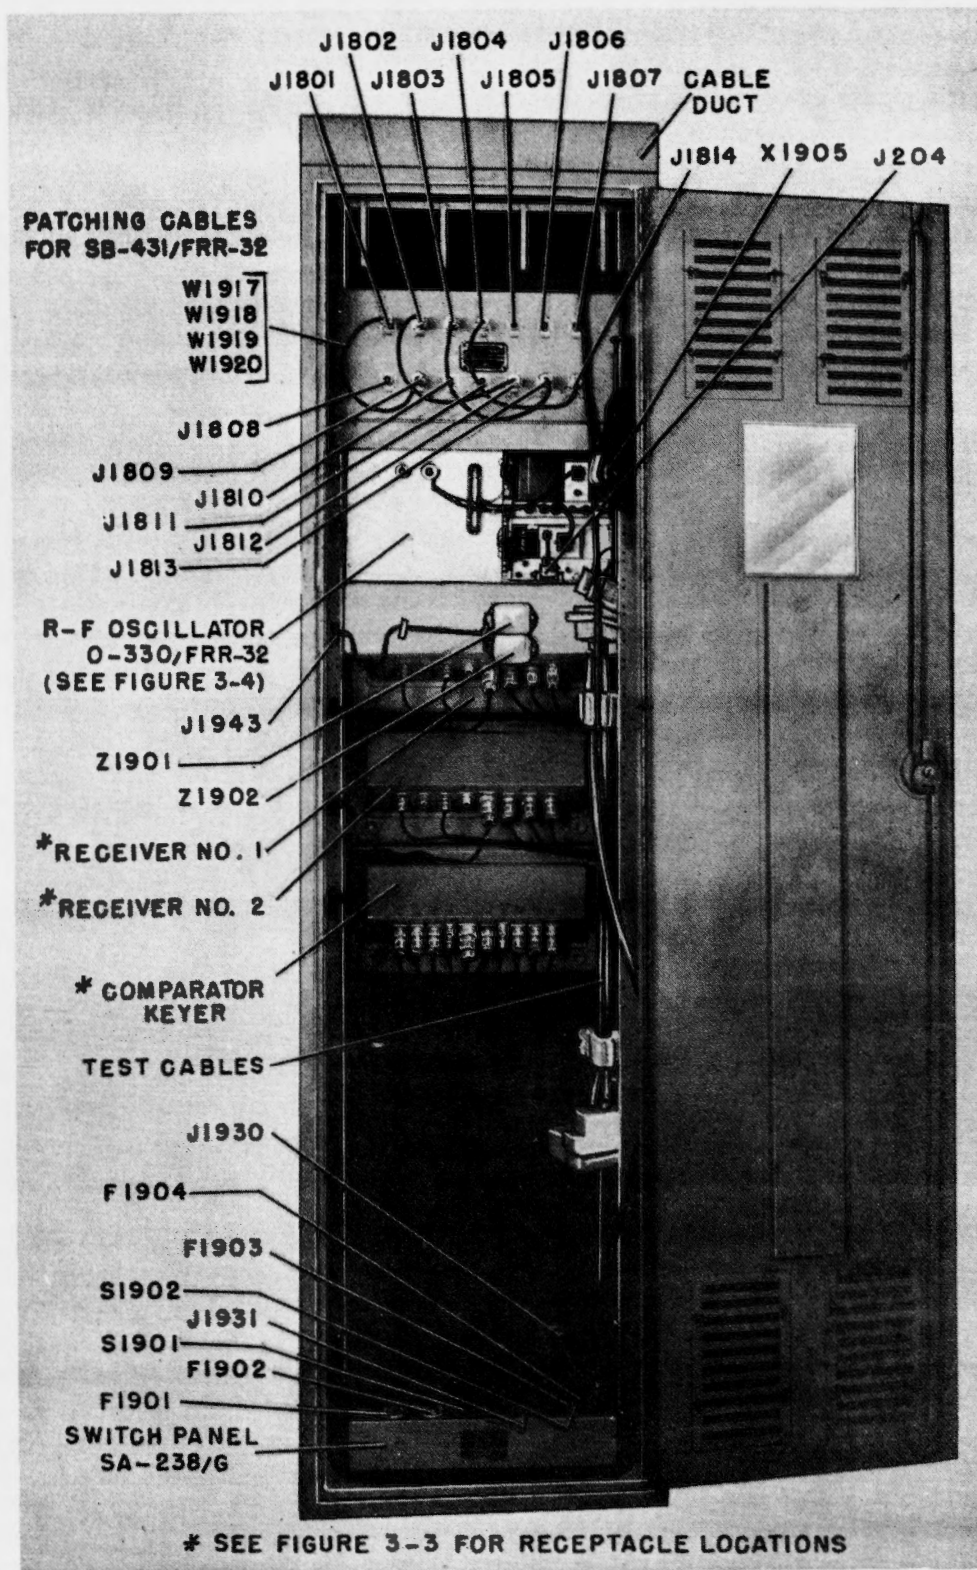
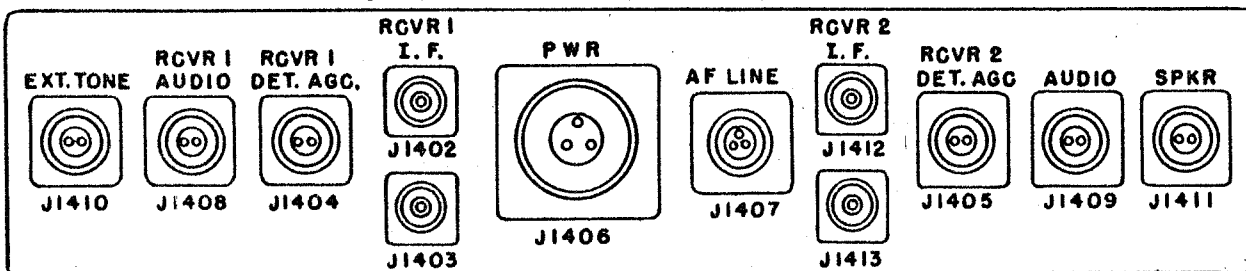
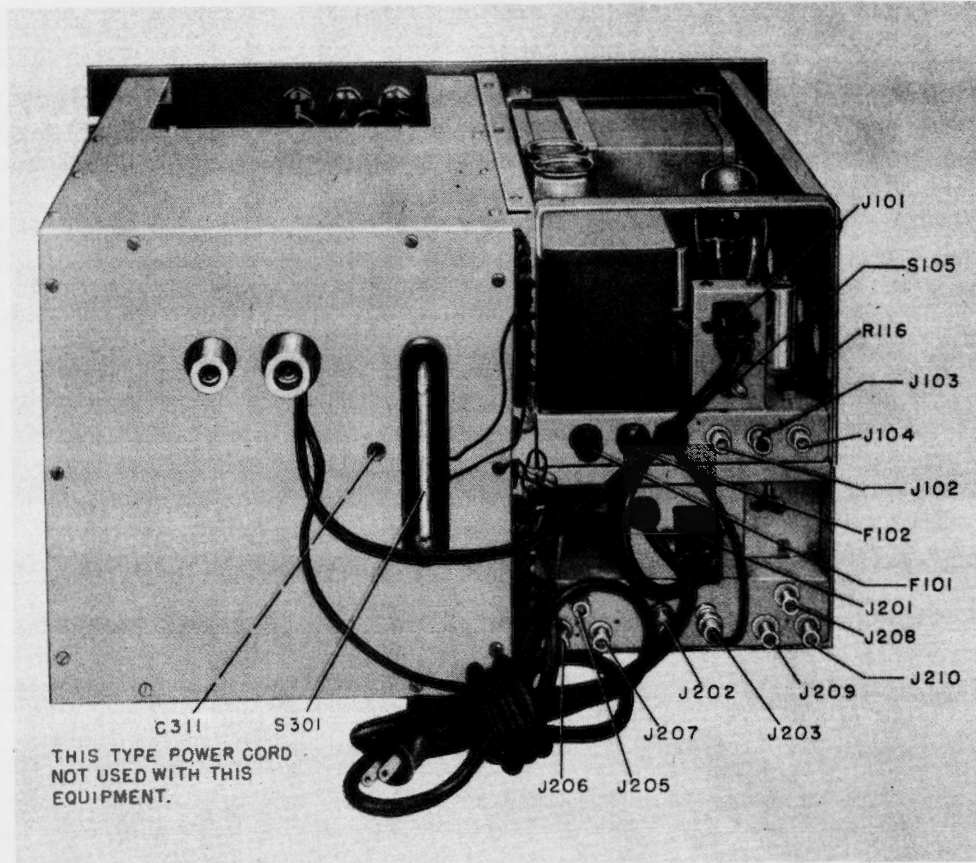

Figure 3-1. Rear View of Cabinet
Figure 3-3. Receptacle Locations, Receiver and Comparator Keyer
Figure 3-4. Receptacle Locations, R-F Oscillator
f. CABLE FABRICATION. - Receptacles are provided at the rear of each unit. Those on each receiver are labeled IF, PAN, EXT. OSC., ANT, POWER, AUDIO, and DET. AGC. The receptacles on the back of the Comparator Keyer are labeled EXT TONE, RCVR 1 AUDIO, RCVR 1 DET. AGC, RCVR 1 IF, PWR AF LINE, RCVR 2 IF, RCVR 2 DET. AGC, RCVR 2 AUDIO, and SPKR. Figure 3-3 shows the locations of these receptacles. Figure 3-4 shows the locations of the receptacles at the rear of the R-F Oscillator.
The receptacles mounted on Patching Communication Switchboard SB-431/FRR-32 are all one type, AN3102A-10SL-3P. Only the four receptacles on the lower right of this unit are labeled and wired. They are labeled EXT TONE, AF LINE, RCVR 1 AUDIO and RCVR 2 AUDIO; refer to figure 3-1 for their locations and figure 3-3 for a complete interconnecting cable diagram of the equipment.